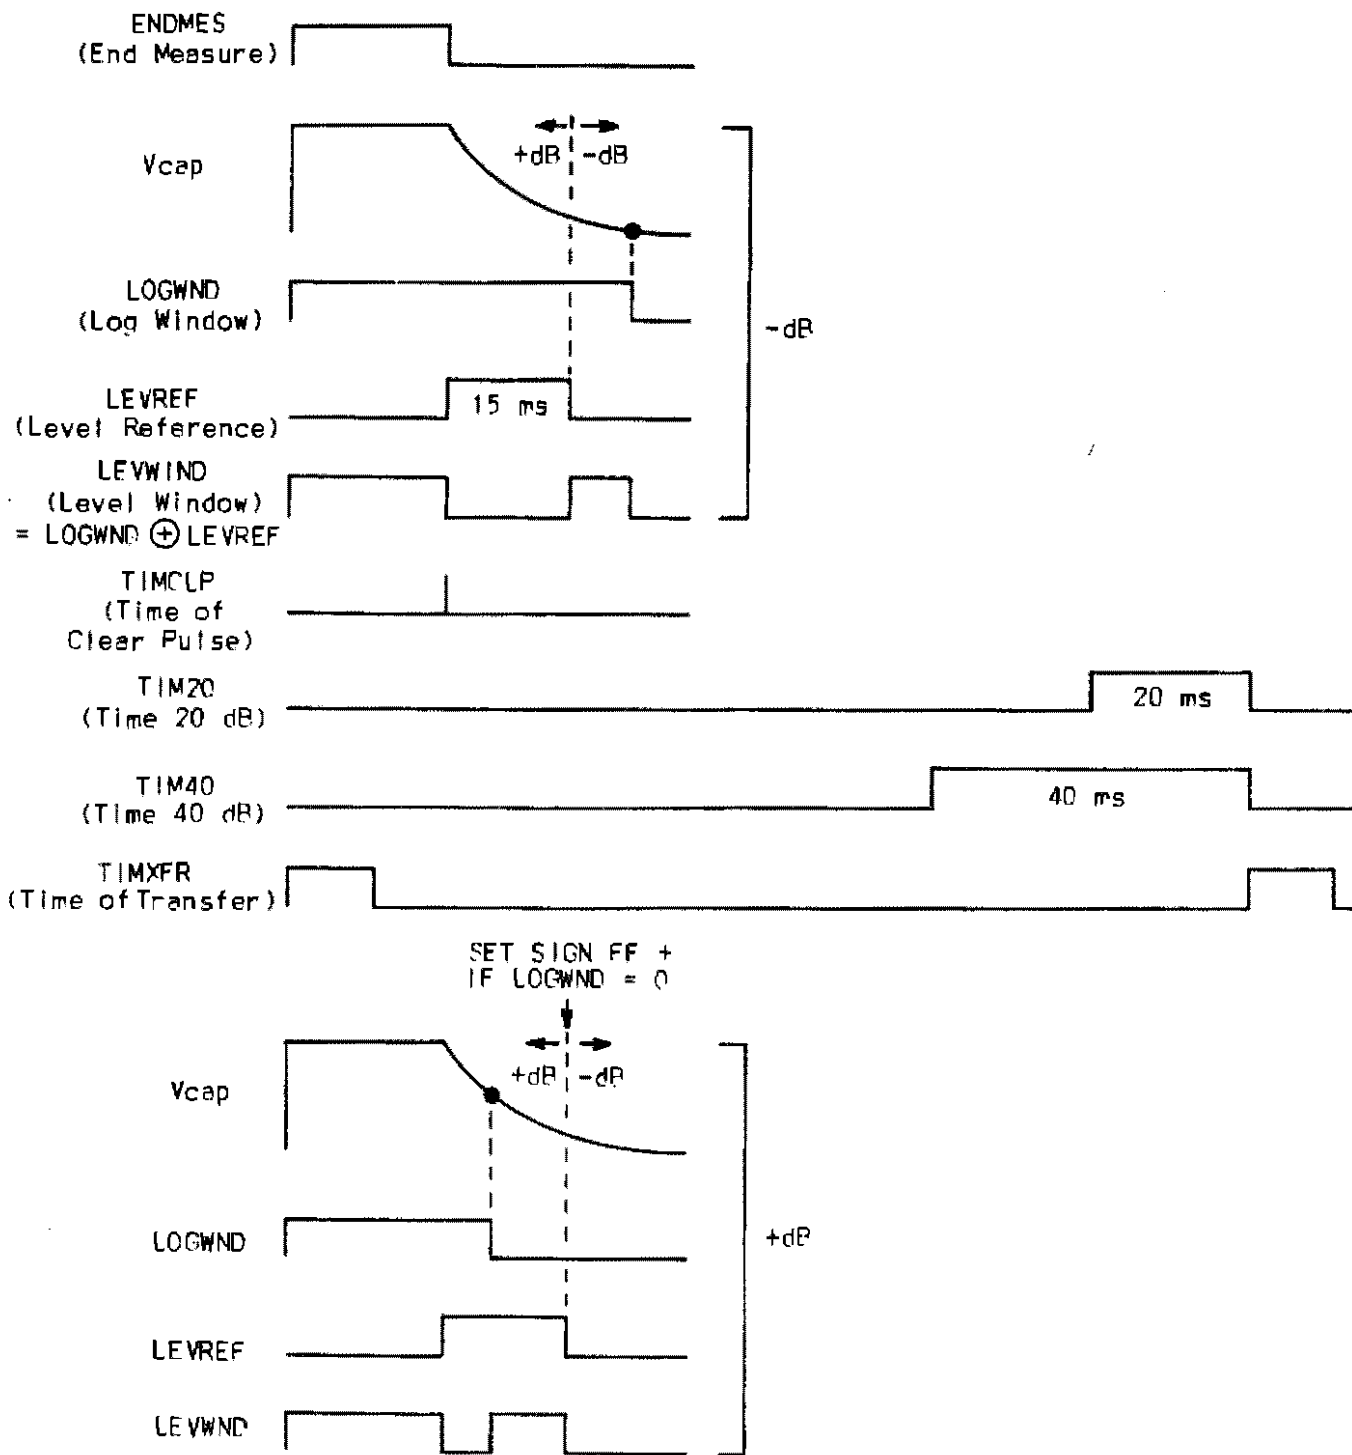

Fig. 11
3.18 Log Converter: Figure 11 shows the operation of the log converter. The ENDMES (End Measure) pulse from the Timing Generator charges a capacitor to a reference voltage. At the end of the pulse, the capacitor is allowed to discharge through a resistor. The capacitor voltage is buffered by a high impedance amplifier and compared with the dc voltage that represents the input signal level. The output of the comparator is high from the start of the ENDMES pulse until the capacitor voltage is less than the input voltage. The width of the comparator output is inversely proportional to the log of the input voltage.
Figure 11 shows the timing for level measurements. The first case shown is a negative dB level. A LEVWIND (level window) signal is formed when:
The second case shown in Figure 11 is a positive level measurement. The counter is enabled from the end of LOGWND until the end of LEVREF. Note that the count decreases as the input level decreases. The sign of the display is determined by a FF, which is set high (positive signal) if LOGWND is low at the end of LEVREF. The displayed + sign is formed by a combination of the - sign and a vertical line.